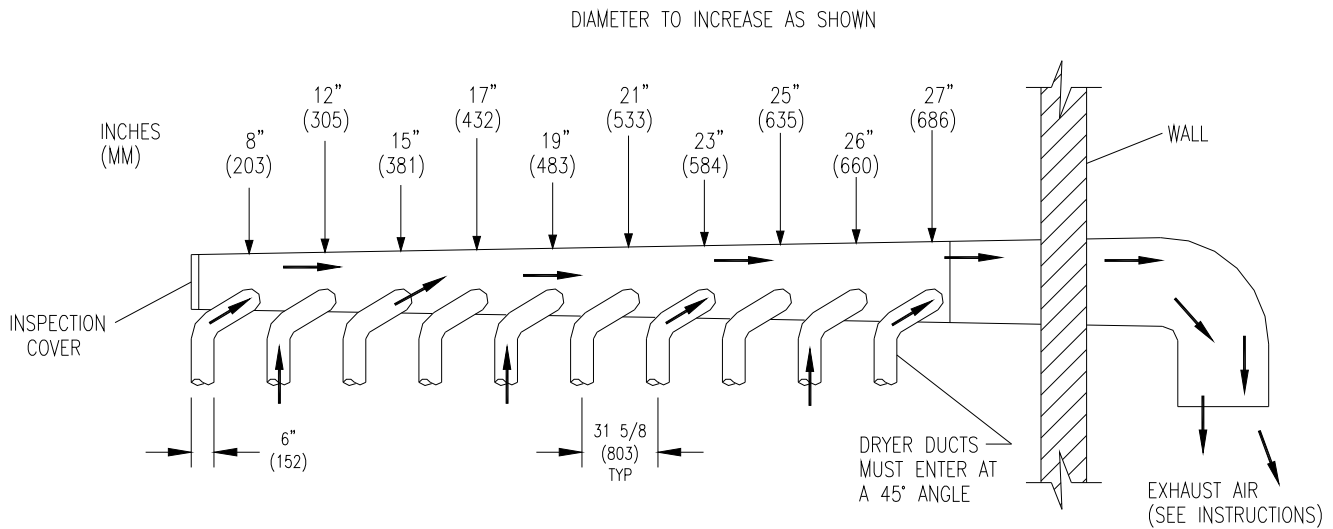

FIGURE 3- Dryer Exhausting Using A Main Discharge Duct.
6. EXHAUST INSTALLATION. (Refer to Figure 3 at the end of section 6.) The exhaust duct connection near the top of the dryer will accept a 152 mm (6 in.) round duct. Exhausting of the dryer(s) should be planned and constructed so that no air restrictions occur. Any restriction due to pipe size or type of installation can cause slow drying time, excessive heat, and lint in the room.
Installation of several dryers, where a main discharge duct is necessary, will need the following considerations for installation (see Figure 3). Individual ducts from the dryers into the main discharge duct should be at a 45-degree angle in the direction of discharge airflow.
**NOTE:** Never install the individual ducts at a right angle into the main discharge duct. The individual ducts from the dryers can enter at the sides or bottom of the main discharge duct. Figure 3 indicates the various round main duct diameters to use with the individual dryer ducts. The main duct can be rectangular or round, provided adequate airflow is maintained. For each individual dryer, the total exhausting (main discharge duct plus duct outlet from the dryer) should not exceed the equivalent of 20' (6 m) and two elbows. The diameter of the main discharge duct, at the last dryer, must be maintained to exhaust end.